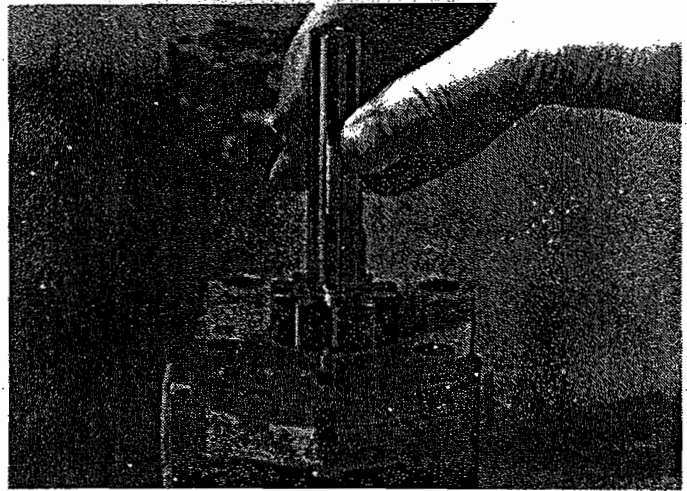

Fig. 14
17. Install drive gear (Item 7) in bearing nearest to matching mark, and idler gear (Item 8) in opposite bearing. (Fig. 14)